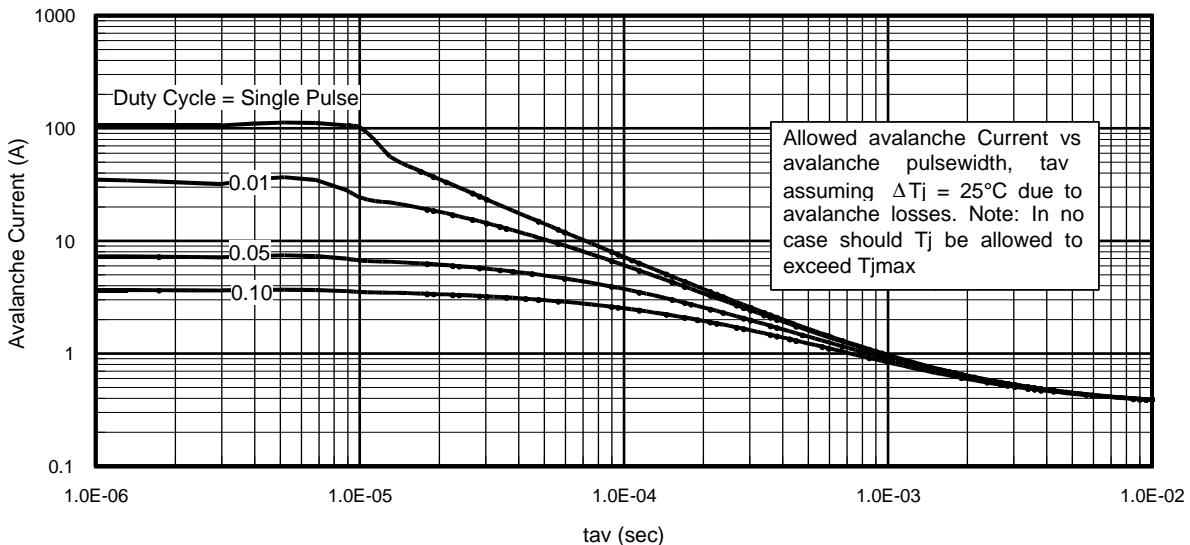

Fig 14. Typical Avalanche Current Vs. Pulsewidth
**Notes on Repetitive Avalanche Curves , Figures 14, 15:
7. ΔT = Allowable rise in junction temperature, not to exceed T_{jmax} (assumed as 25°C in Figure 14, 15).
- ① Repetitive rating; pulse width limited by max. junction temperature.
- ② Starting $T_J = 25^\circ\text{C}$, $L = 0.93\text{mH}$, $R_G = 25\Omega$, $I_{AS} = 19\text{A}$.
- ③ Pulse width $\leq 400\mu\text{s}$; duty cycle $\leq 2\%$.
- ④ This only applies for I-Pak, L_S of D-Pak is measured between lead and center of die contact
- ⑤ R_θ is measured at T_J of approximately 90°C .
- ⑥ Contact factory for mounting information
- ⑦ Limited by T_{Jmax} . See Figs. 14, 15, 17a, 17b for repetitive avalanche information
- ⑧ When D-Pak mounted on 1" square PCB (FR-4 or G-10 Material). For recommended footprint and soldering techniques refer to application note #AN-994
- ⑨ Refer to D-Pak package for Part Marking, Tape and Reel information.